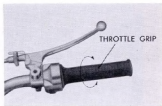

Fig. 9
4. Open the throttle about 1/8—1/4 of a turn and kick the starter pedal firmly. (Fig. 9)